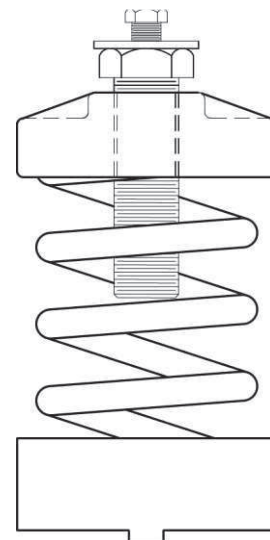

FIGURE 3 - SPRING ISOLATOR
- Standard fan isolation consists of spring isolators as shown in *Figure 3 on page 16* mounted under the internal fan assembly.
2. To adjust the isolators as shown in *Figure 3 on page 16*,